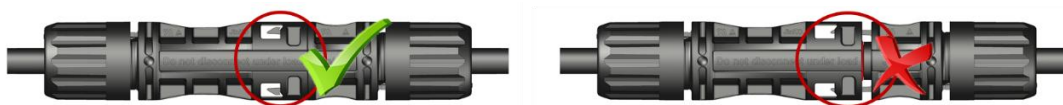

Figure 10: Schematic Diagram of Correct/Incorrect Engagement of Connectors
- Before connecting the male and female connectors, ensure that the contacts are free of corrosion, clean, and dry, and check the wiring status. When connecting, insert the male and female connectors until they engage, then gently pull to check if the engagement is secure. The correct/incorrect engagement visual diagram is shown in Figure 10 (for reference only; the actual connectors shall be based on the ones received on-site).